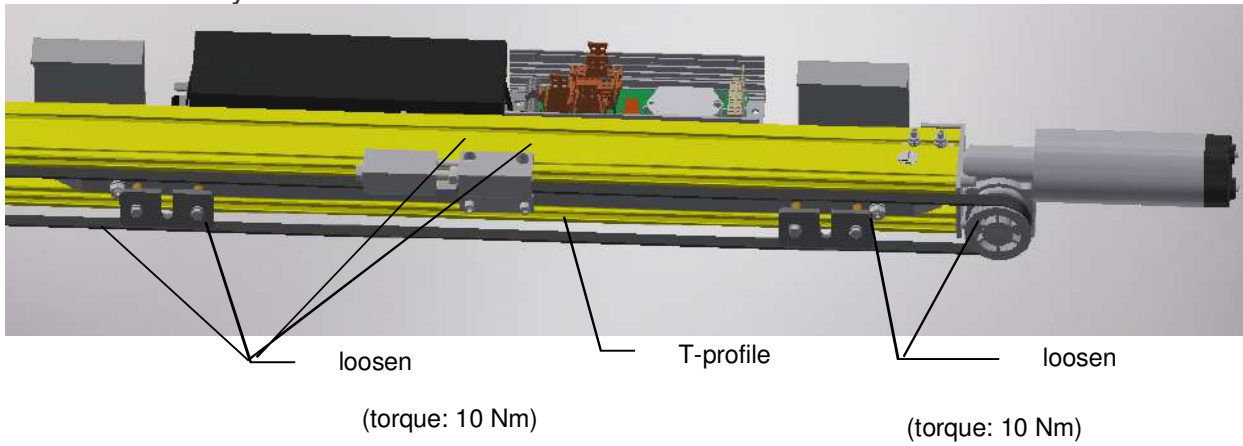

Figure 14: T-profile
- 3) Unscrew the T-profile of the right and left basis (Figure 14)